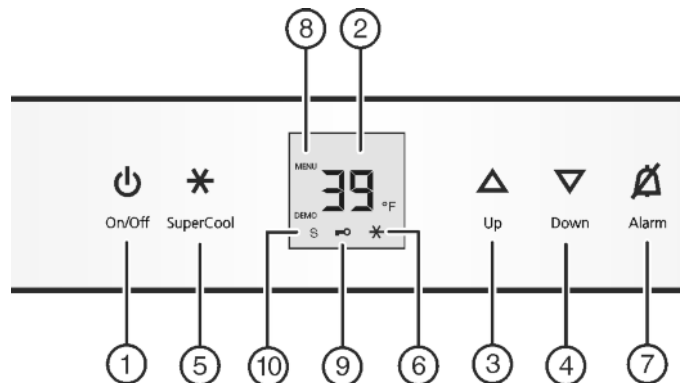

Fig. 3
- ▶ Press On/Off button Fig. 3 (1).
- ▶ Activate setting mode: Press SuperCool button Fig. 3 (5) for about 5 seconds.
- ▷ The SuperCool button Fig. 3 (5) will flash.
- ▶ Using Up button *Fig. 3 (3)*/ Down button *Fig. 3 (4)* select °.
- ▶ To confirm: Briefly press SuperCool button *Fig. 3 (5)*.
- ▶ Using Up button *Fig. 3 (3)*/ Down button *Fig. 3 (4)* select °F or °C.
- ▶ To exit setting mode: Press On/Off button *Fig. 3 (1)*.
- ▶ Select setting mode: Press and hold the SuperCool button *Fig. 3 (5)* for approx. 5 seconds.
- ▶ Using the Up *Fig. 3 (3)* or Down button *Fig. 3 (4)*, select c.
- ▶ Press the SuperCool button *Fig. 3 (5)* briefly to confirm. When c1 is shown on the display:
- ▶ To switch on the child proof lock, press the SuperCool button *Fig. 3 (5)* briefly.
- ▷ The Child safety symbol *Fig. 3 (9)* lights up. c flashes on the display.
- ▶ To switch the child proof lock off, press the SuperCool button *Fig. 3 (5)* briefly.
- ▷ The Child safety symbol *Fig. 3 (9)* goes out. c flashes on the display.
- ▶ To deactivate setting mode: Press the On/Off button *Fig. 3 (1)*.
- ▶ Press Alarm button *Fig. 3 (7)*.
- ▶ To activate setting mode: Press and hold the SuperCool button *Fig. 3 (5)* for approx. 5 s.
- ▷ The Menu symbol *Fig. 3 (8)* lights up.
- ▶ To access the Sabbath mode function: Briefly press the SuperCool button *Fig. 3 (5)*.
- ▶ To turn on Sabbath mode, briefly press the SuperCool button *Fig. 3 (5)*.
- ▶ To turn off Sabbath mode, briefly press the SuperCool button *Fig. 3 (5)*.
▶ To deactivate setting mode: Press the On/Off button *Fig. 3 (1)*.
- ▷ The Sabbath Mode symbol *Fig. 3 (10)* appears on the temperature display as long as Sabbath Mode is active.